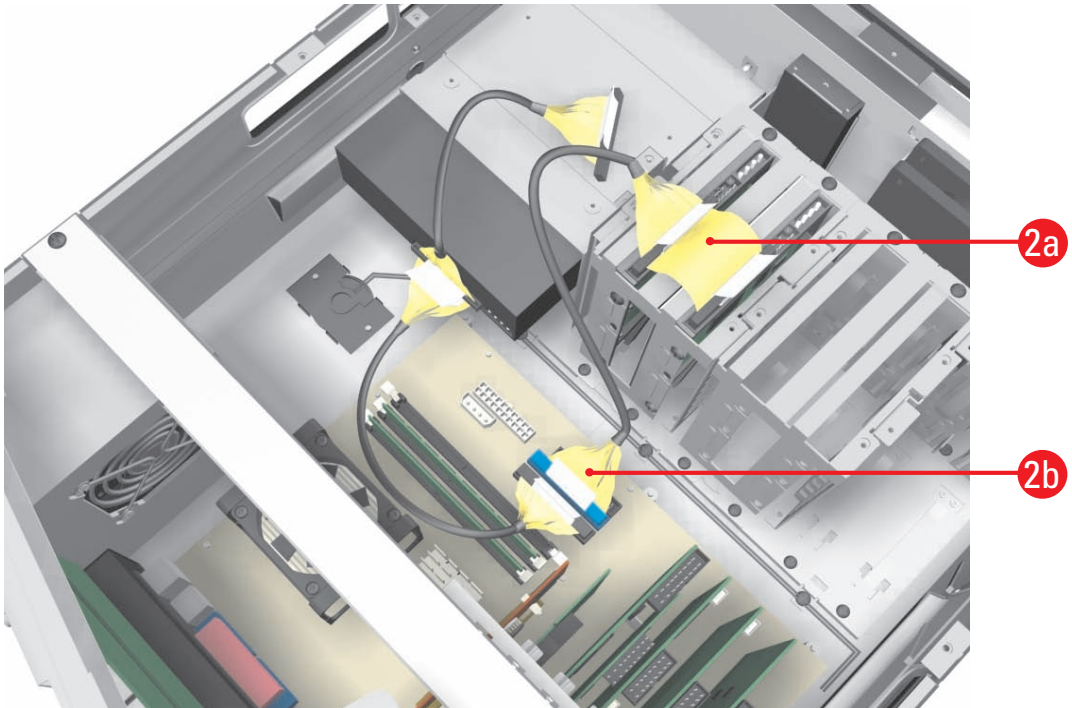

Figure 17. Install Hard Drive Data Cables
- a. Connect the straight data cable to Hard Drive 1 and Hard Drive 2 according to the example shown in Figure 17.
- b. Connect the straight data cable to the primary (*blue*) IDE connector on the system motherboard. Refer to Figure 17.